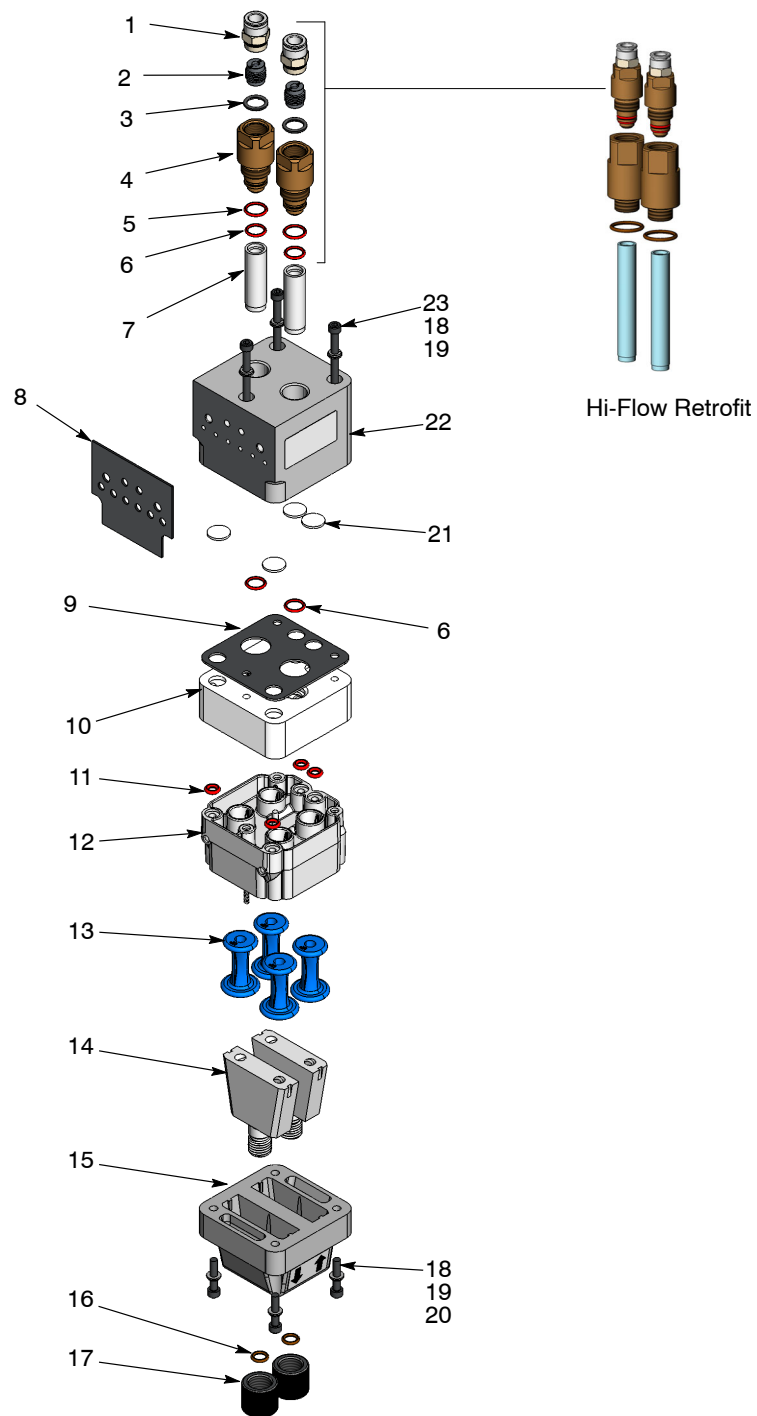

Figure 10 Pump Disassembly
4. See Figure 10. Starting with the fluidizing tubes, disassemble the pump as shown. Gaskets that are glued on do not need to be removed unless they are damaged.